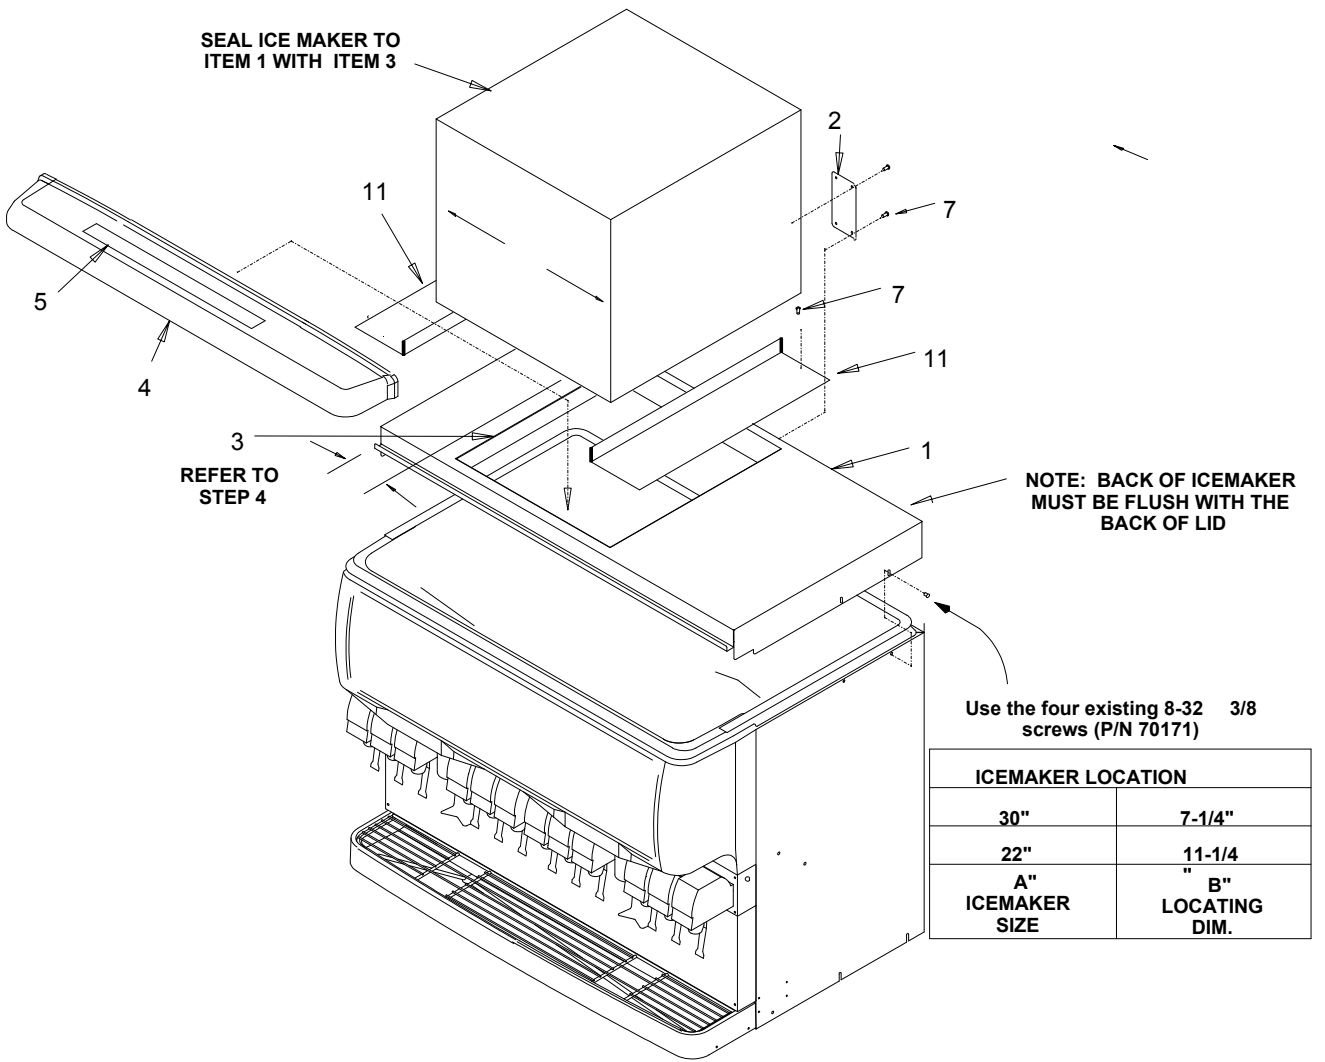

Figure 1. Dispenser
4. Seal the ice maker to the top of the dispenser after determining the correct location for the ice maker (see Figure 1).
7. For 22-inch wide Ice makers, locate the lid opening covers (2) item 11 as shown in Figure 1. Secure the covers to the adapter lid by drilling .136 diameter holes into the lid. Use the covers as templates to locate the mounting holes. Secure the covers with the # 10 sheet metal screws.
8. Locate the cleaning caution label (item 5) on the manual ice fill cover (item 4) as shown in Figure 1. Place the manual fill cover in position over the flange on the lid assembly and the front access hopper opening.